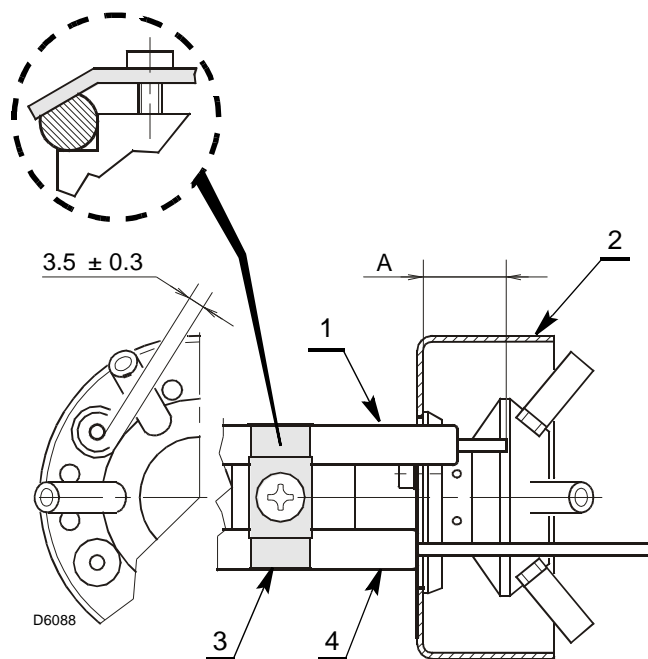

Fig. 13
- Make sure that the plate 3)(Fig. 13) is always inserted in the flattening of the electrode 1).